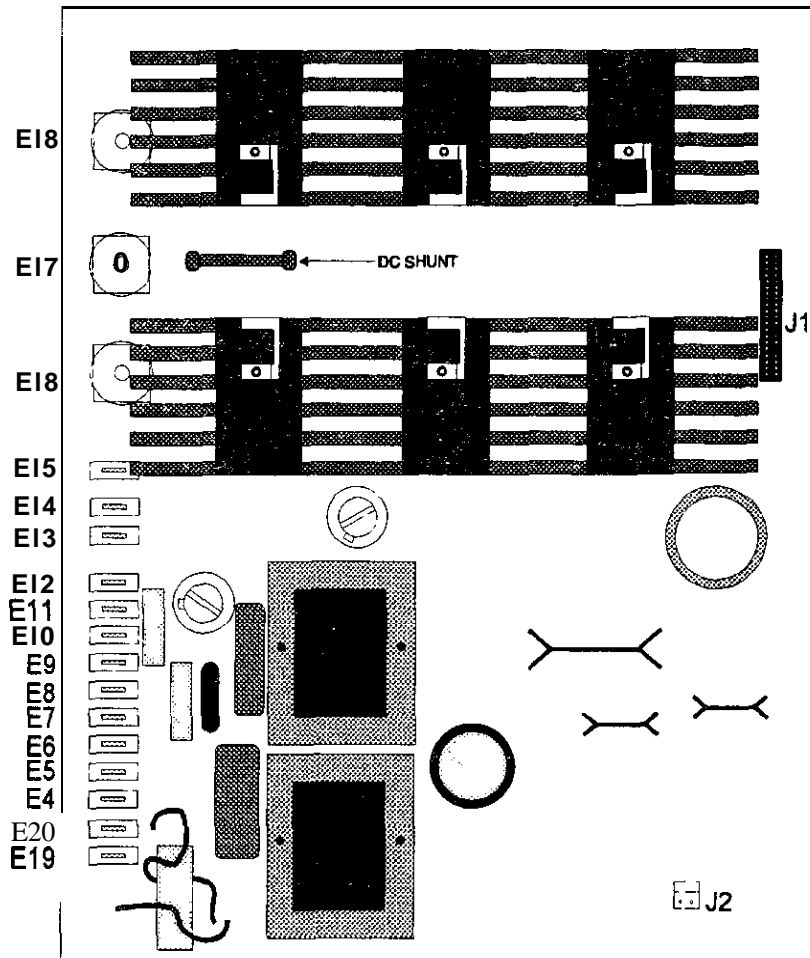

Figure 6
- 301-2. Label the wires at the following power board connections: **J1, J2, J3 (if used), E4, ES, E6, E7, E8, E9, E10, E11, E12, E13, E14, E15, E16, E17, E18, E19, and E20.** (See Figure 6 on the next page.) Next, disconnect the wires.
- 301-5. Reconnect **all** wires to the power board **except** E4. E8. E9, E12, E14, E19, and E20. Use the labels you attached in step 301-2 to match **the wires** to the correct connection points on the power board. You can also use Table 3 on the next page as a guide to reconnecting the wires. See Figure 6 above to find the connection points.